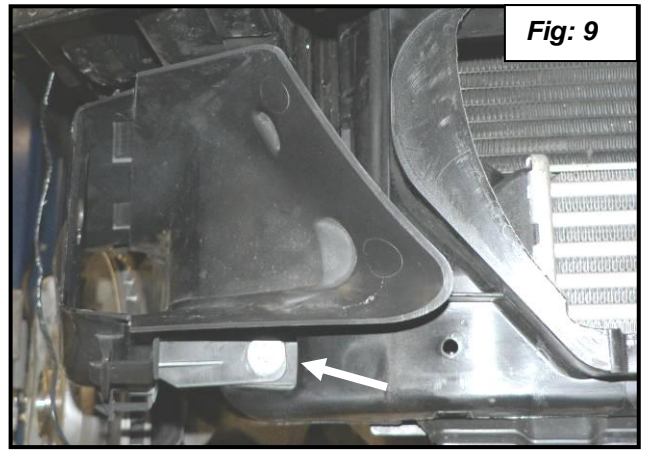

Fig: 9
14. Remove the brake duct by removing the mounting screw. See figure 9. Discard duct and keep screw to install new duct you will modify in the following steps.